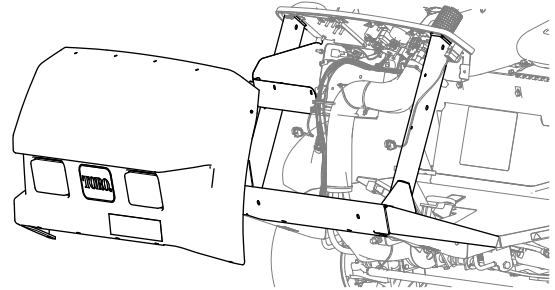

Figure 5
7. Remove the hood from the machine (Figure 5).